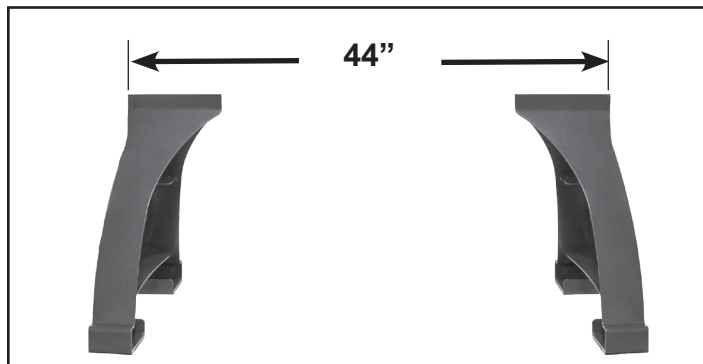

FIG. 4
1. Position the two Legs (O) approximately 44" (1118mm) apart measuring from the outside edges. Be sure that the shelf brackets on the legs are facing inward, towards each other. Figure 4.
2. Secure the Tailstock (E), and Tool Rest Base (D) assemblies to the Lathe Bed (F) by tightening their locking Lever Handles. See page 20 of this manual on how to make adjustments if needed.